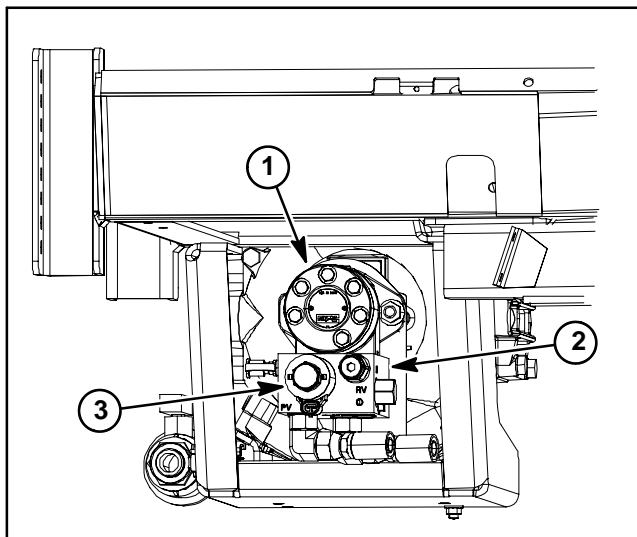
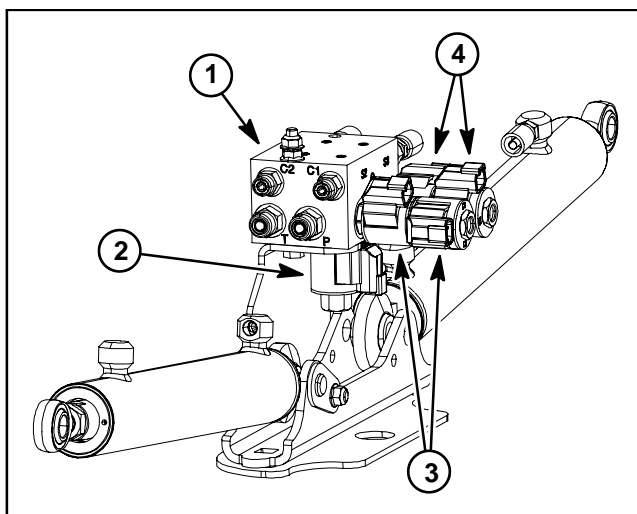

Figure 31
Figure 32
The Multi Pro 5800 hydraulic system uses several hydraulic solenoid valve coils for system control. The spray pump control manifold includes one (1) solenoid valve (Fig. 31) and the boom lift control manifold includes five (5) solenoid valves (Fig. 32). When the solenoid coils are energized, hydraulic valve shift occurs to control hydraulic flow. Testing of the coils can be done with the coil installed on the hydraulic valve.